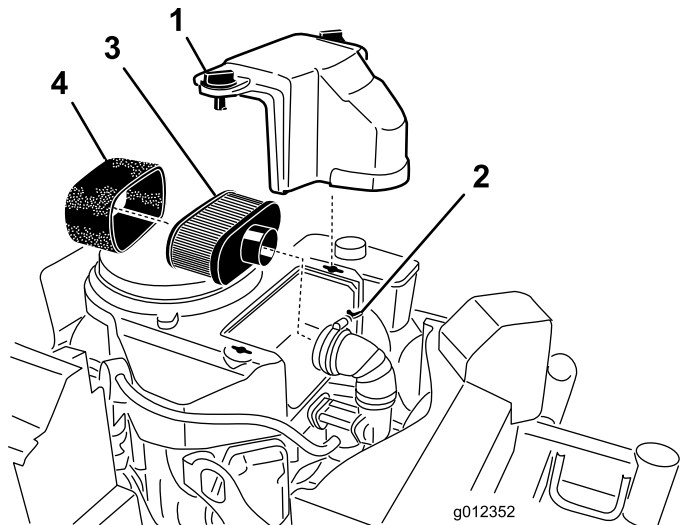

Figure 29
3. Clean around the air cleaner to prevent dirt from getting into the engine and causing damage (Figure 29).
4. Unscrew the cover knobs and remove the air cleaner cover (Figure 29).
5. Unscrew the hose clamp and remove the air cleaner assembly (Figure 29).
6. Carefully pull the foam element off the paper element (Figure 29).
1. Do not clean the paper filter, replace it (Figure 29).
1. Carefully slide the foam element onto the paper air cleaner element (Figure 29).
2. Place the air cleaner assembly onto the air cleaner base and secure it with the 2 wing nuts (Figure 29).
3. Place the air cleaner cover into position and tighten the cover knob (Figure 29).